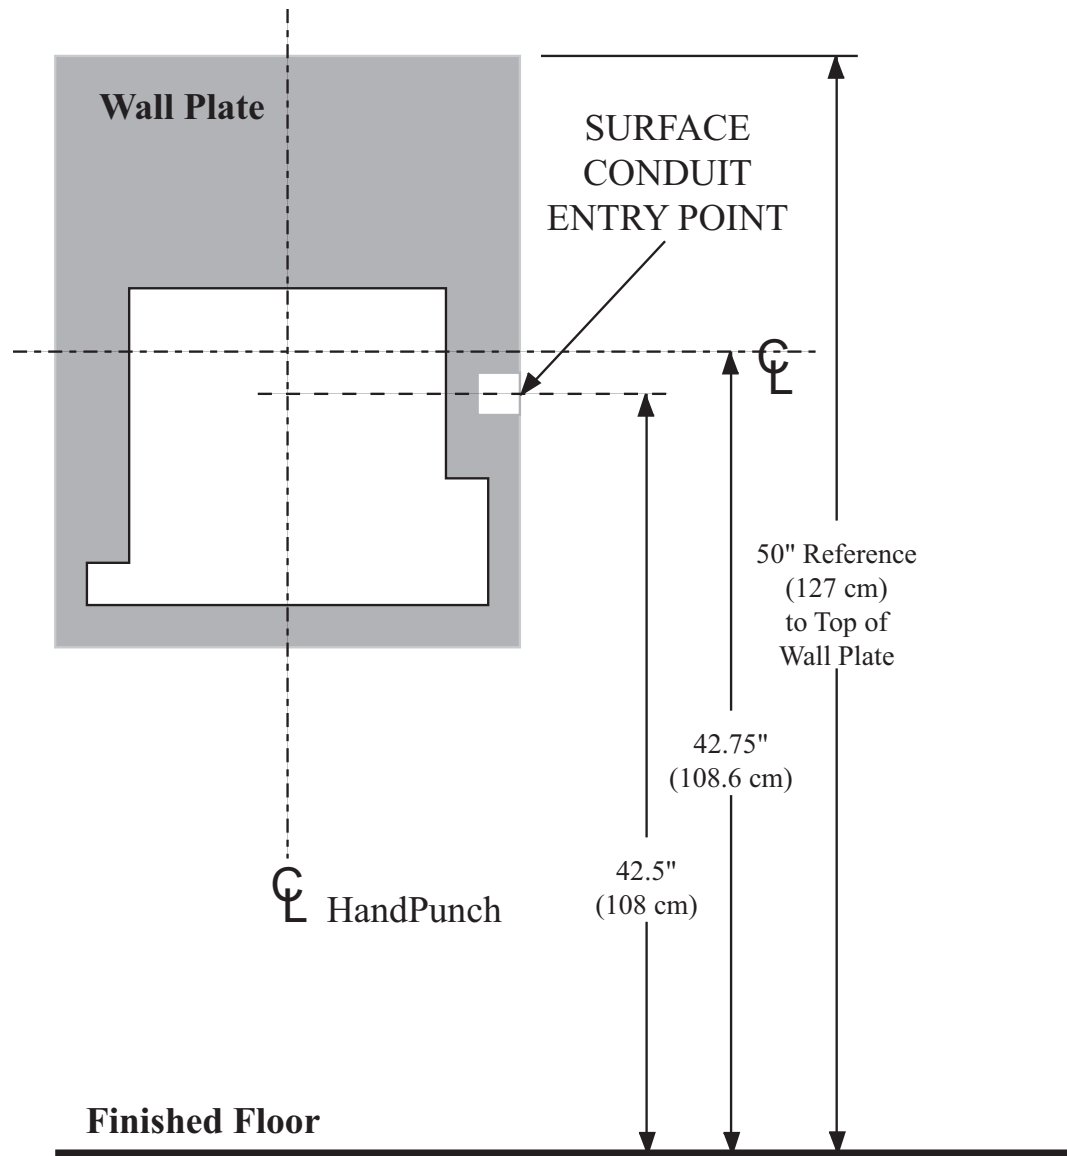

Figure 12-2: HandPunch Wire Routing Layout
1. Refer to Figure 12-2 on page page 48 for a template diagram to assist in routing wiring.